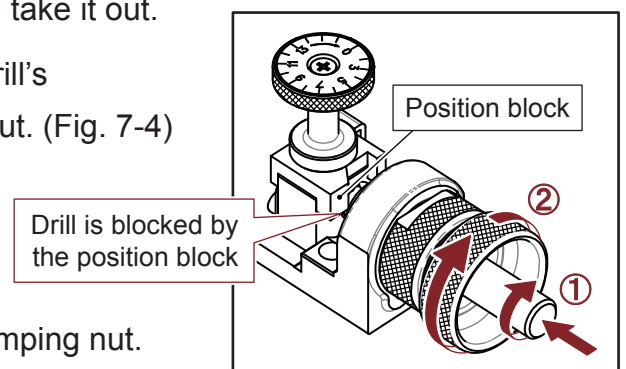

Fig. 7-3
4. Push the drill to the end and slowly turn it clockwise until it stops by the position block. (Fig. 7-3 step ①)
5. Turn the collet holder clockwise and tighten the chuck set to secure the drill. (Fig. 7-3 step ②)